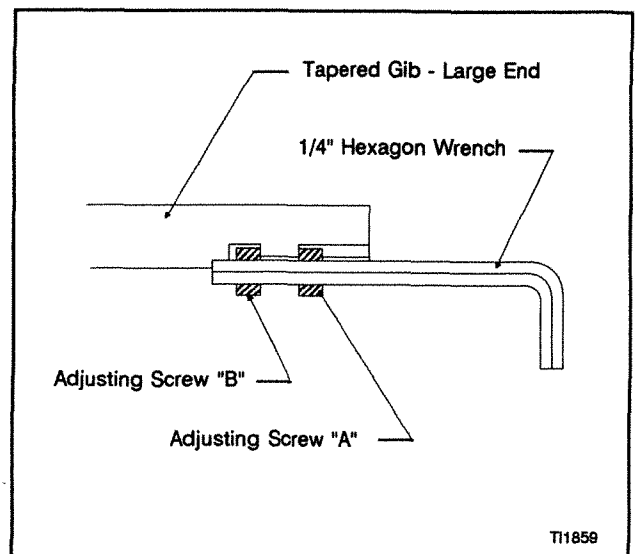

Figure 2.11 - Gib Adjustment Illustration
- b) Insert $\frac{1}{4}$ " hex wrench in screw "A", Figure 2.11, and loosen one turn.
- b) Insert $\frac{1}{4}$ " hex wrench in screw "A", Figure 2.11 , and loosen one turn.
2. Insert ¼" hex wrench in screw "A", Figure 2.11, and loosen one turn.